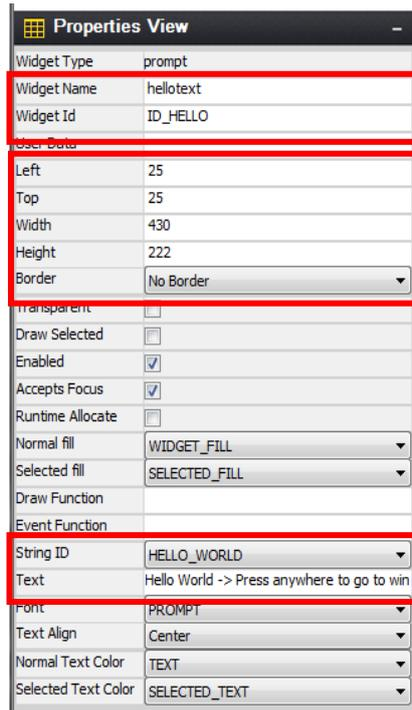

Figure 88 Configure Hello Text Prompt Properties
36. In the Project View under window2, click on prompt_2 then modify the properties to match Figure 88.